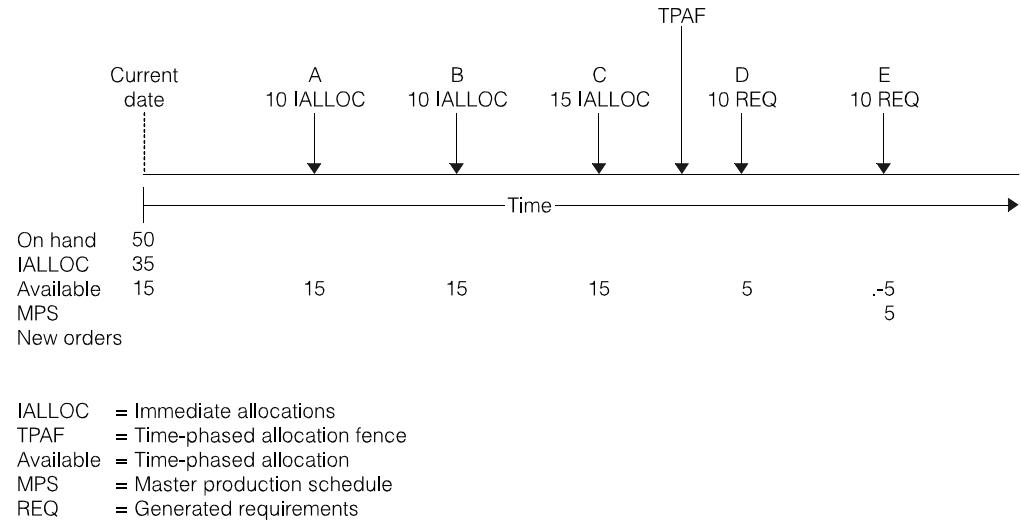

Figure 2-5. Item with time-phased allocations
- Case 1: An order for a parent item is released (Figure 2-3, Figure 2-4, and Figure 2-5)
Notice that on the current horizon date MRP subtracts 35 allocated units from the inventory on hand of 50 units; out of the remaining 15 units, it assigns 10 units to requirement D and 5 units to requirement E. Finally, MRP creates a planned order for 5 units to complete the total requirement for E. Let's assume that in the examples following Figure 2-3 the planned order for 5 units has been released and is now an open order. We use this open order to show how to expedite an order to meet the changes in the material plan. Figure 2-4 and Figure 2-5 show the changes that occur when you release an order for the parent of requirement E. In each case, requirement E becomes an allocation when MRP releases an order for the parent item.
In Figure 2-5 you see the changes that occur when you use a time-phased allocation fence with the data given in Figure 2-4. In this example, the last requirement E is now a time-phased allocation and treated as a future requirement. Because the immediate allocations have not changed, there is no need to issue a message to expedite or create new orders. Figure 2-5 shows the items using time-phased allocations.